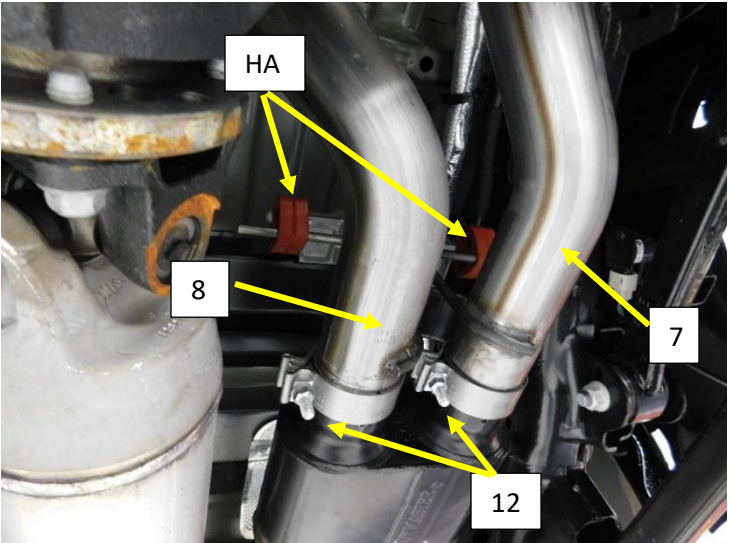

Figure.11
12. Install a 3" band clamp (12) on to each of the Muffler outlet pipes. **Fig.11**
13. Install the OEM muffler hanger assembly (HA) on to the crossmember at the rear of the muffler using the original 13mm nuts removed previously. **Fig.11**
15. Install the tail pipe into the muffler and install the hanger rod (HA) through the isolator. **Fig.11**
17. Install the Left-over axel pipe (8) with the hanger rod (HA) toward the muffler, feed the pipe over the differential and toward the rear of the truck. **Fig.11**
18. Install the hanger rod into the rubber isolator (HA), tighten the clamp to allow for adjustment. **Fig.11**